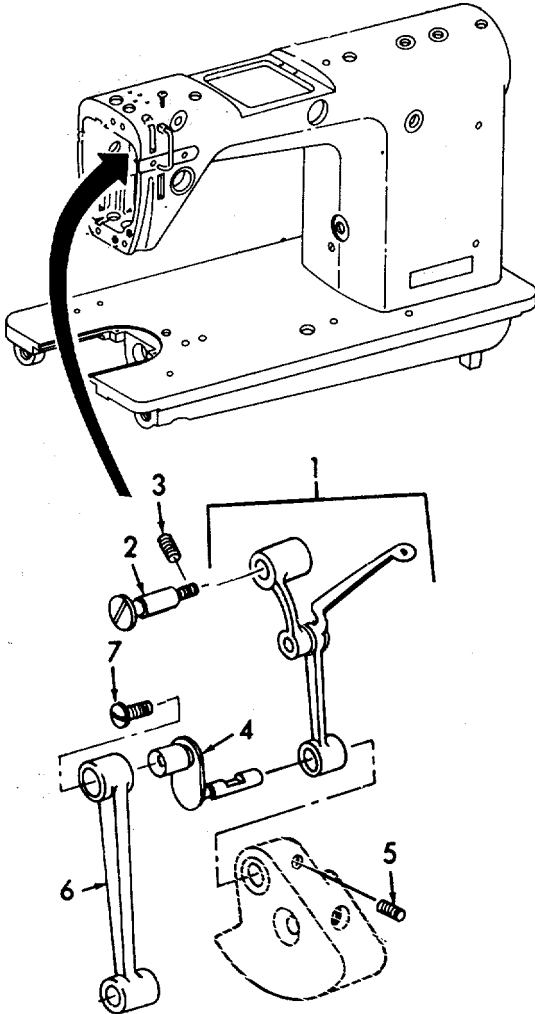

Figure 6-73. Needle Bar Linkage, Installation.
(9) Refer to Figure 6-73. Install lever assembly (1), stud screw (2), and setscrew (3).
(10) Install crank (4) and two setscrews (5).
(11) Install crank rod (6) and left-hand threaded screw (7).